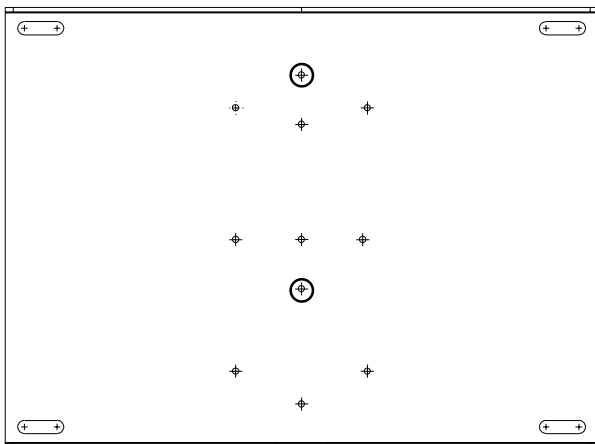

fig. 1.1
- 1** **NOTE:** Align top hole of wall mount (A) with top hole on the wall plate as shown figures 1.1 and 1.2.